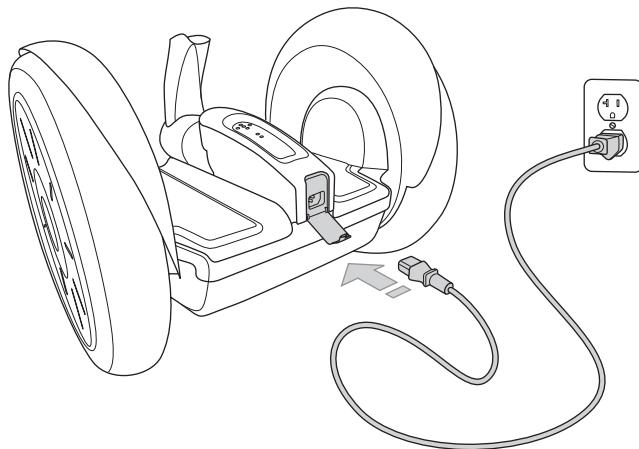

Figure 21. Plug Power Cord into Charge Port
4. Plug one end of the Power Cord (provided with your Segway PT) into a grounded AC outlet (100 V~ to 240 V~; 50 Hz or 60 Hz). The Power Cord should be properly grounded (see **Figure 21**).